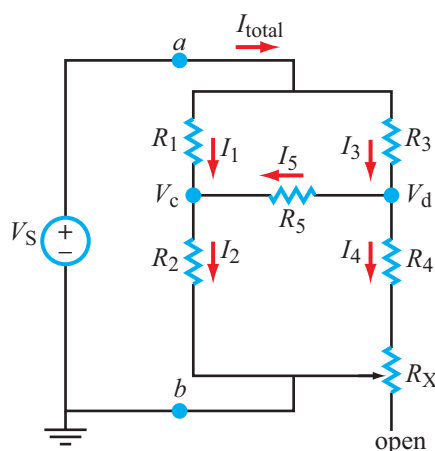

Figure 25: Bridge circuit.
1. Build the circuit shown in Figure 25 using the same resistors, but now add a potentiometer R_X with maximum resistance of 10 k Ω .